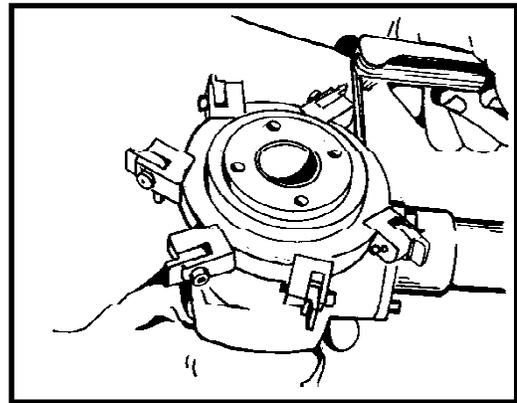

Figure 14
4. Install the Trip Collar Assembly, making sure the locking screw is located close to the Motor Housing. Tighten with the provided hex key set. Installation at this position will insure access to each trip (Figure 14)